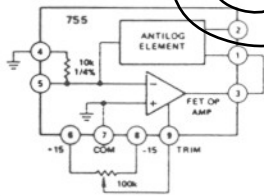

Figure 3. Trimming  $E_{OS}$  in Log Mode
**Scale Factor (K)** — Scale factor is the voltage change at the output for a decade (i.e., 10:1) change at the input, when connected in the log mode. Error in scale factor is equivalent to a change in gain, or slope, and is specified in per cent of the nominal value. An external adjustment may be performed if fine trimming is desired for improved accuracy.
**Trimming  $E_{OS}$**  — The amplifier's offset voltage,  $E_{OS}$ , may be trimmed for improved accuracy with the model 755 connected in its log circuit. To accomplish this, a 100k $\Omega$ , 10 turn pot is connected as shown in Figure 3, and the input terminal, pin 4, is connected to ground. Under these conditions the output voltage is: